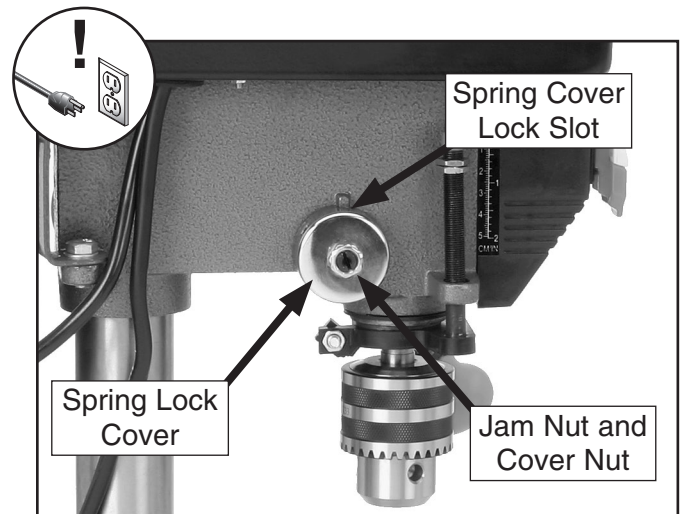

Figure 24. Feed shaft return spring assembly.
2. Wipe off any oil on the spring lock cover so it does not slip in your fingers when you hold the cover from spinning (see Figure 24).